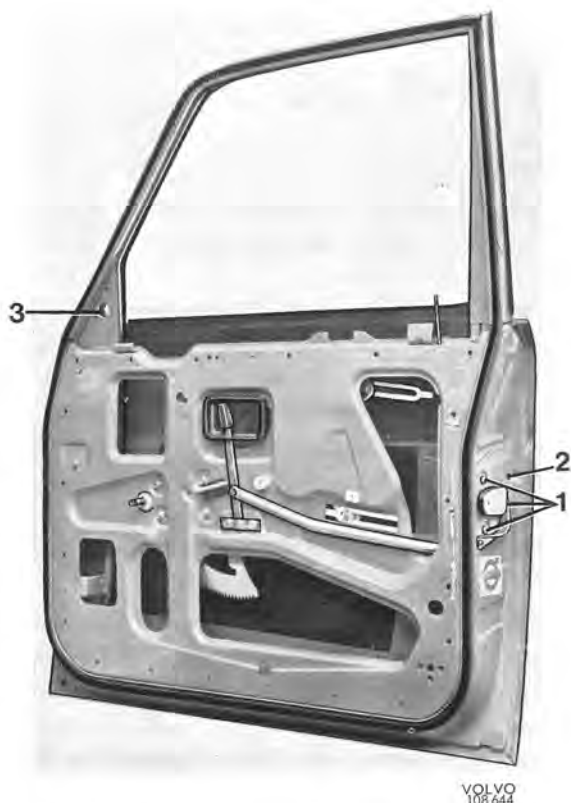

Fig. 8-10. Front door
Remove the door stop in accordance with the instructions under "Removing and installing door stops". Unscrew the bolts between the hinges and door. The bolts are accessible when the door is opened. The door can then be taken off (Fig. 8-10).
2. Remove the lock cylinder by unscrewing the attaching screw which is fitted in the rear edge of the door (2, Fig. 8-10).
6. Unscrew the three screws for the door lock and remove the door lock. These screws are placed on the rear edge of the door (1, Fig. 8-10).